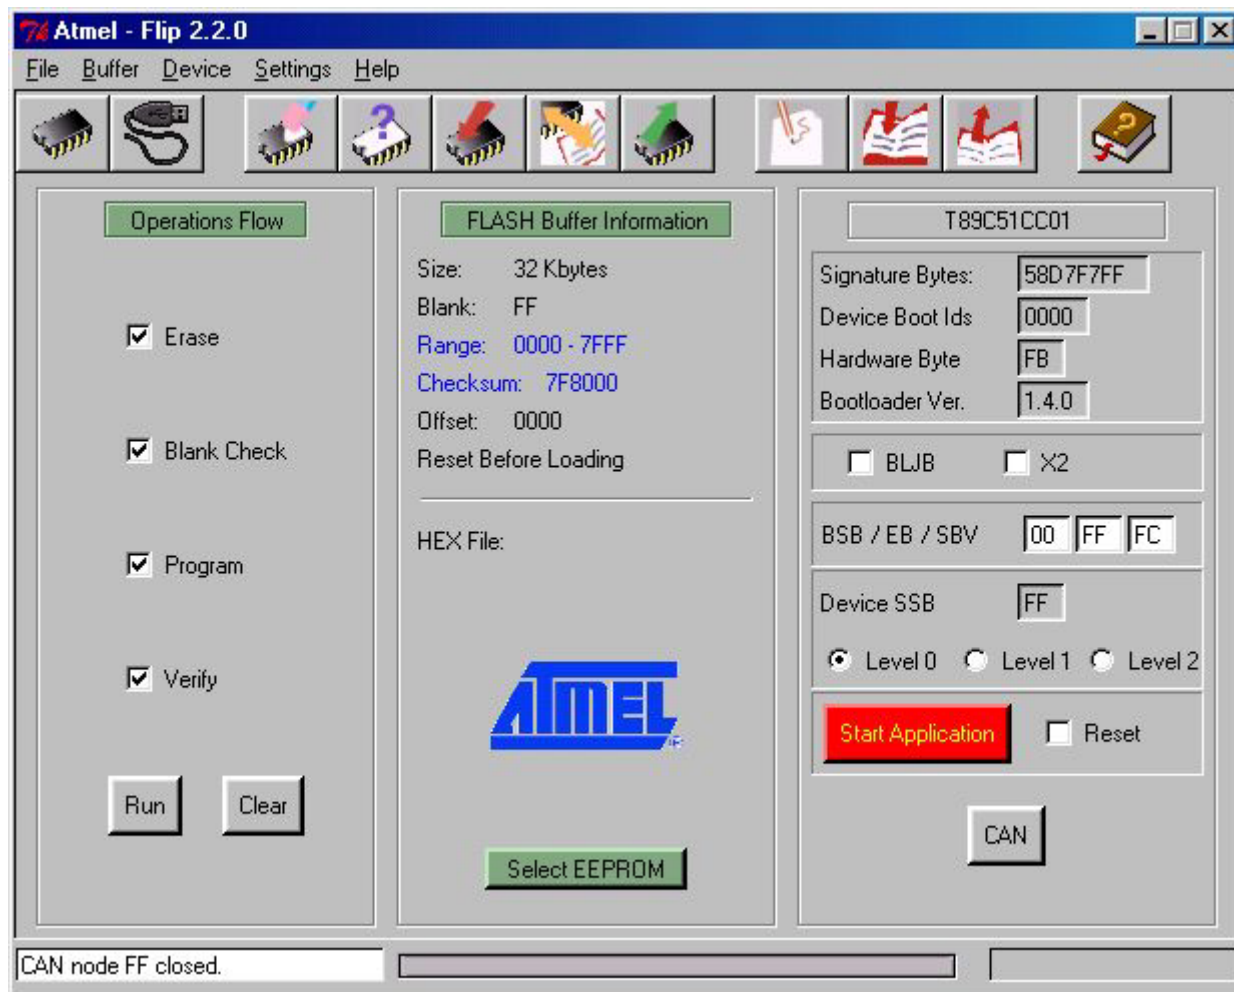

FIGURE 17: FLIP SETTINGS WINDOWS (3 OF 3)
- B9) Make sure that text boxes in the frame "AT89C51CC01" fill with text, like in figure 17; in detail the box "Signature Bytes" must have the same content as in figure 17.
- B11) Check all the check boxes in the frame "Operations Flow" like in figure 17.